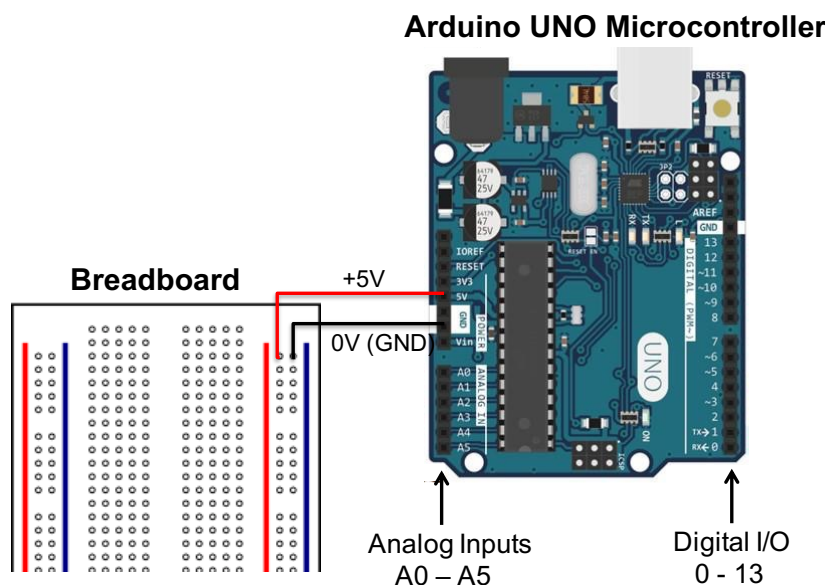
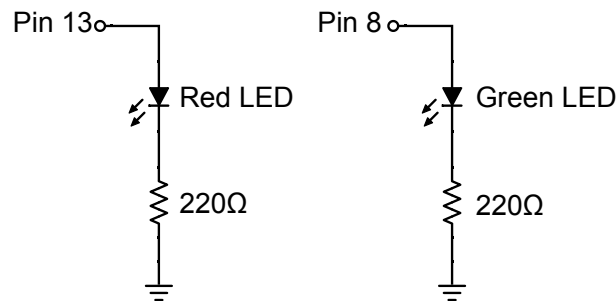

Figure 1 – The Arduino UNO Microcontroller works in tandem with breadboard.
Figure 5 – Digital outputs from the Arduino are used to drive two different LEDs. The 220Ω resistors are used to limit the current and prevent voltage droop.
The Arduino UNO is an inexpensive microcontroller commonly used by hobbyists and engineering students. Shown in Figure 1, the UNO is connected to a breadboard where various sensors and circuits can be implemented (i.e. a thermistor in a voltage divider circuit). Here are a few of the more salient features of the UNO.
2. Use red and black jumper wires to connect the +5V and GND pins on the Arduino to the vertical bus lines on the breadboard, as shown in Fig. 1. Use the orange handheld DMM to verify that it is providing +5V of power.
1. Using the breadboard, connect the Red LED in series with a 220Ω resistor. Use a long jumper wire to connect digital output pin 13 to the LED, as shown in Fig. 5. The resistor should be connected to GND via the vertical bus line as shown in Figure 1.
connect digital output pin 8 to the LED, as shown in Fig. 5.